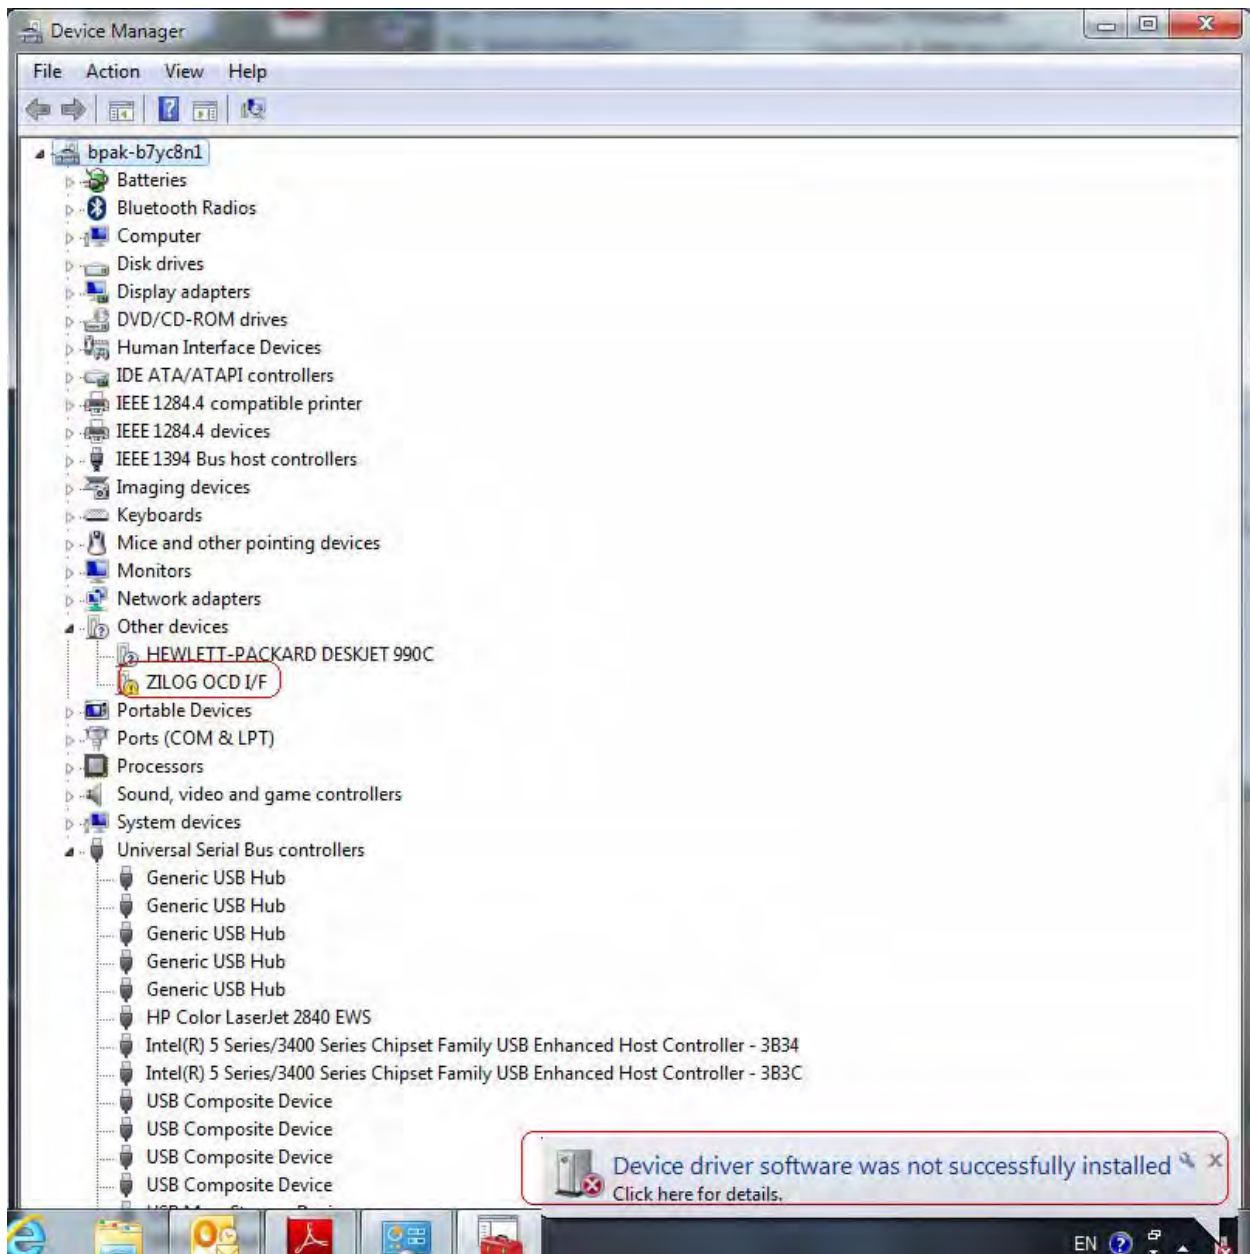
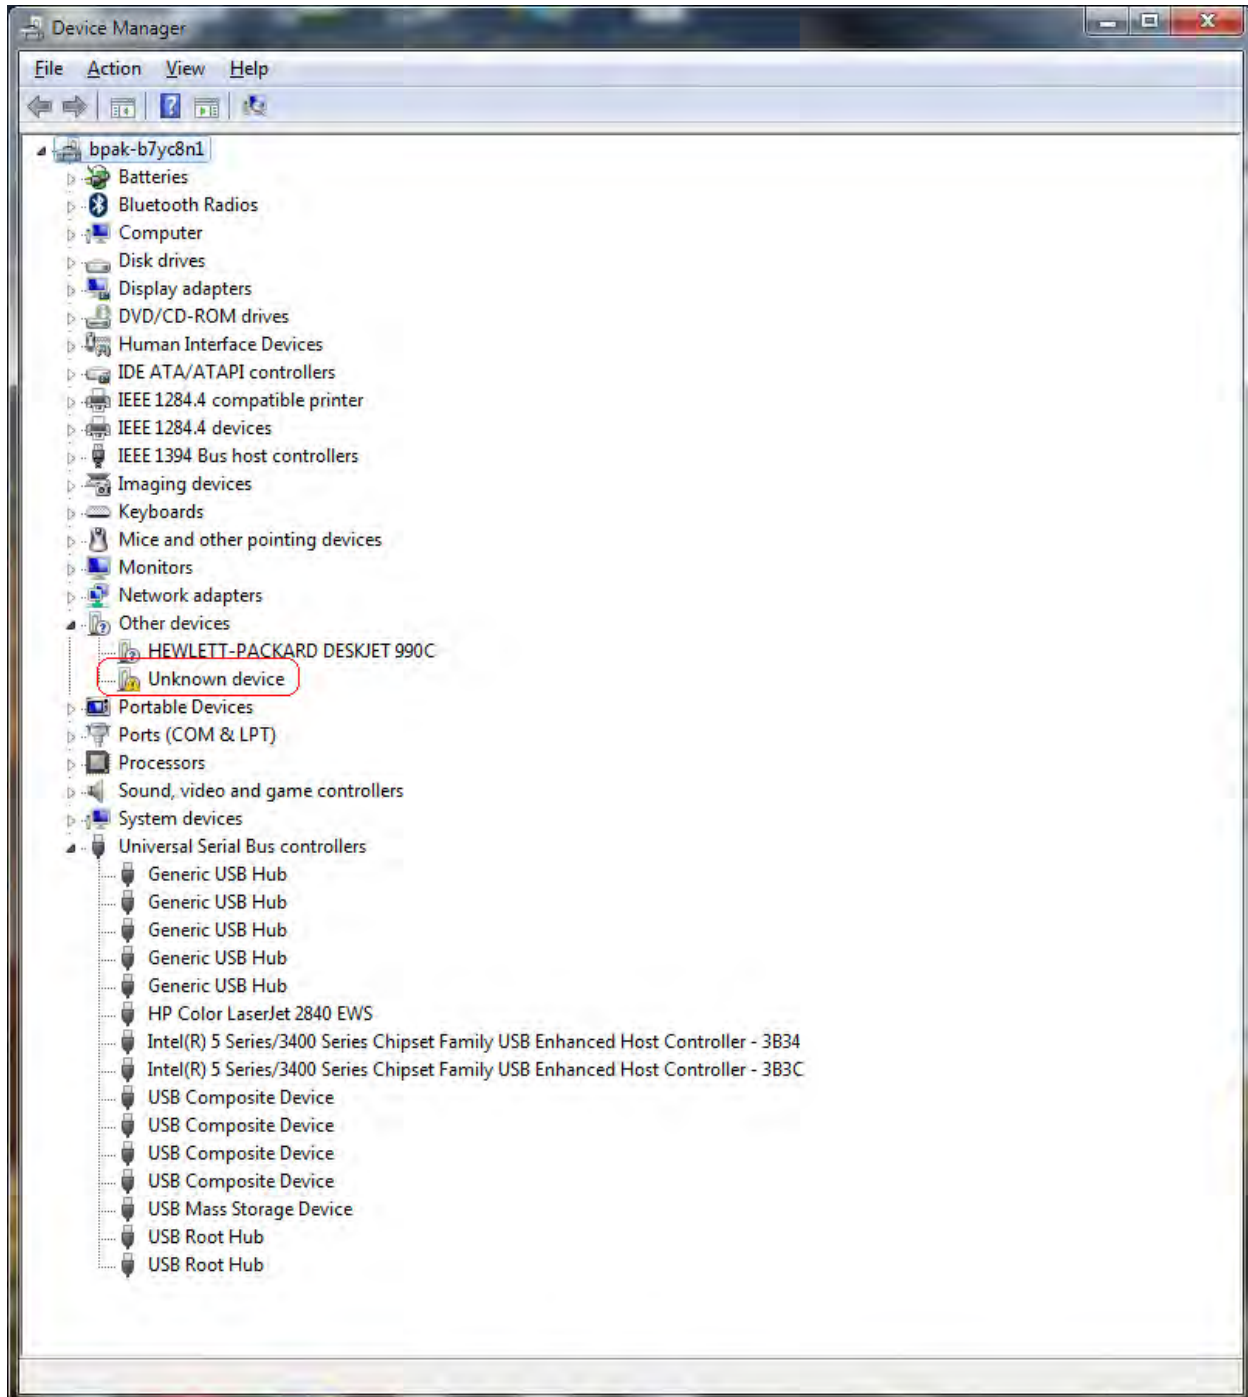

Figure 6. Unsuccessful Installation, Scenario 1
Figure 7. Unsuccessful Installation, Scenario 2
**IMPORTANT NOTE:** If you should encounter the scenarios indicated in Figures 6 or 7, right-click your mouse on **ZILOG OCD I/F** (highlighted in Figure 6) or **Unknown device** (highlighted in Figure 7) and select **Update Driver Software...**